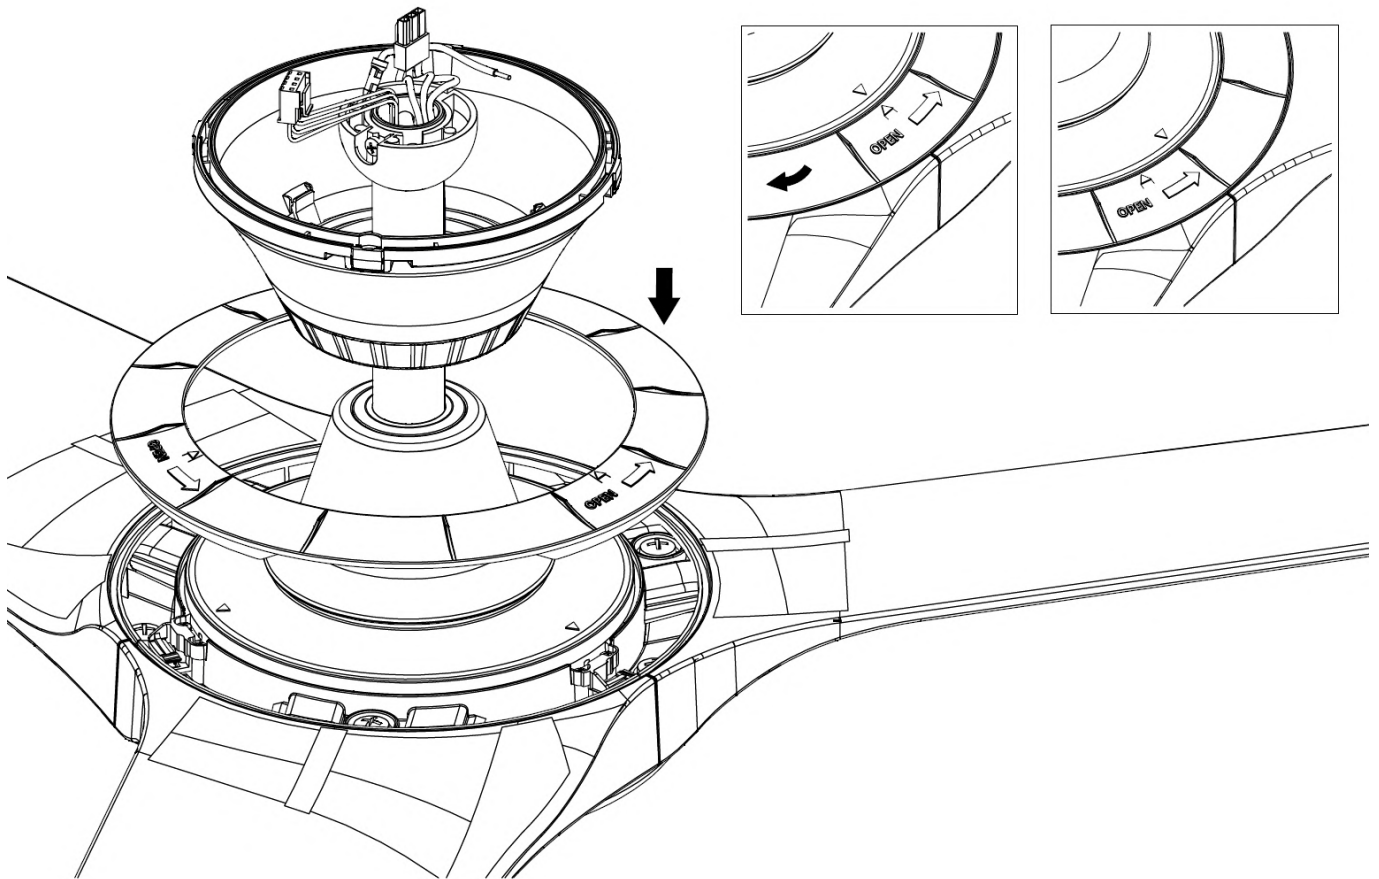

Fig. 4.3
3. Install the fan host ring cover back to the motor assembly. Lock it by turning clockwise. (Fig. 4.3)